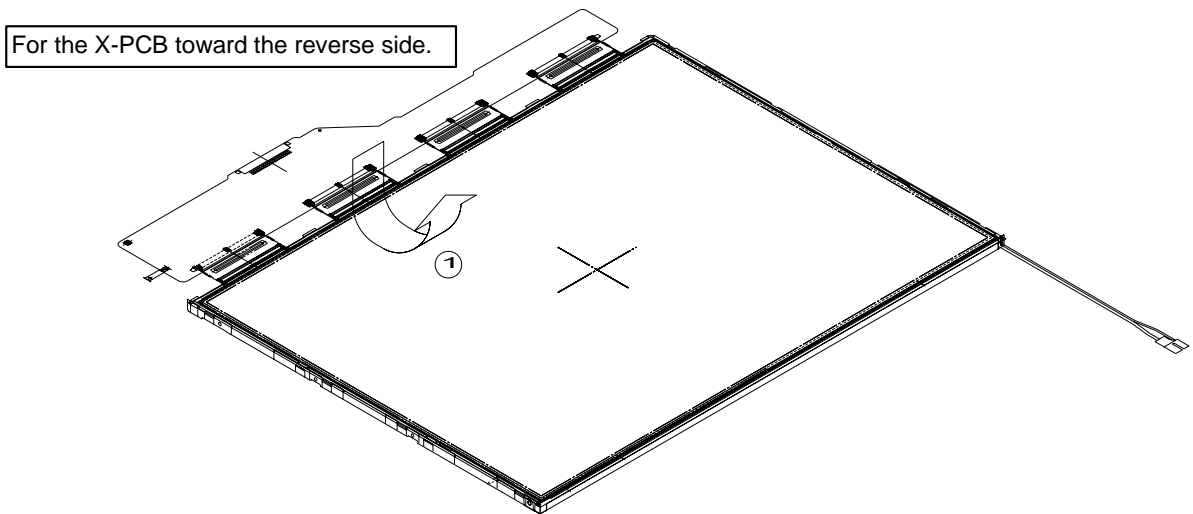

Figure 4-53 Replacing 14 Inch TMD fluorescent lamp (9)
1. Fold down the TAB (PCB) toward the reverse side of the backlight unit, as shown in Figure 4-53.